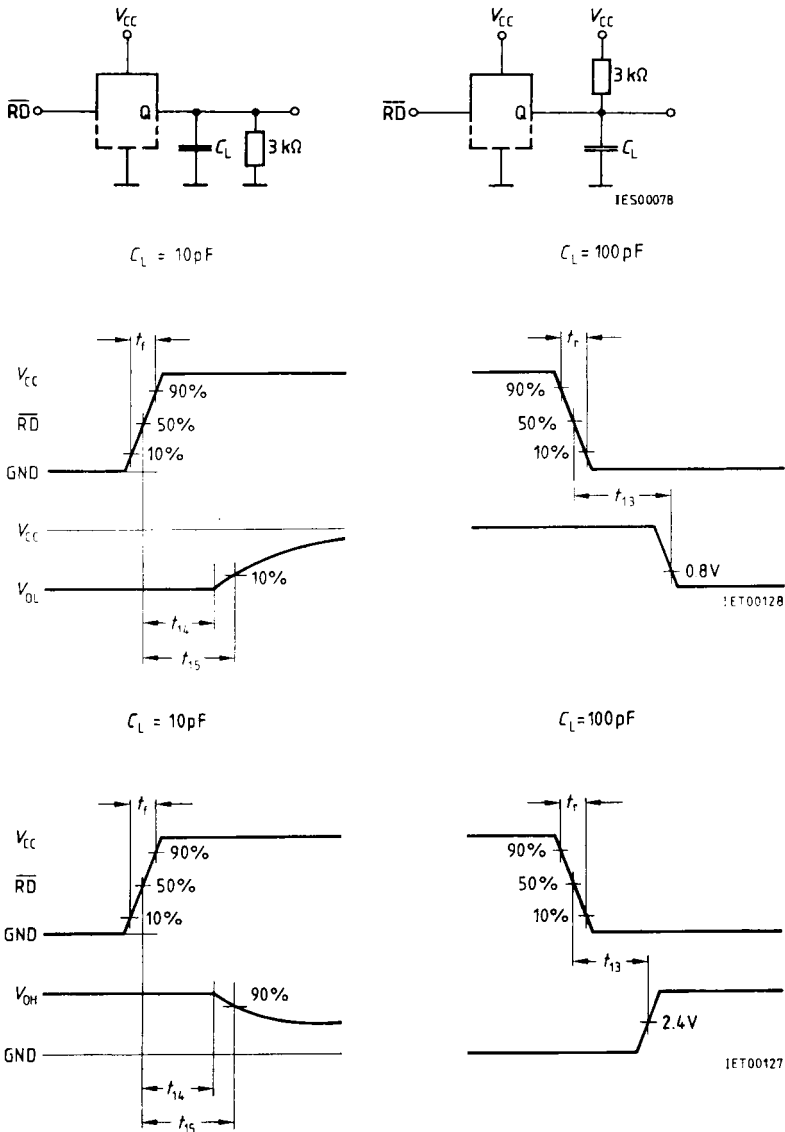

Figure 11
- 3) t_{13} is measured with the load circuits of **figure 11** and defined as the time required for an output to cross 0.8 V or 2.4 V.
- 4) t_{14} is defined as the time required for the data lines to change three-state, **see figure 11**.
- 5) t_{15} is defined as the time required for the data lines to change 10%/90% when loaded with the circuits of **figure 11**.